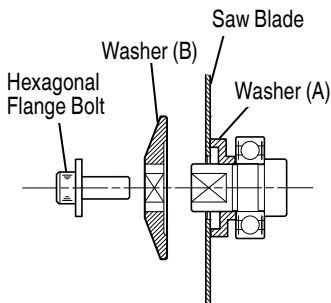

Fig. 16
- (1) Thoroughly remove any sawdust which has accumulated on the spindle, bolt and washers.
- (2) For mounting saw blade, the concave sides of both washers (A) and (B) must be fitted to the saw blade sides. Mount the saw blade on the spindle, and finally affix washer (B) (See Fig. 16)
- (3) To assure proper rotation direction of the saw blade, the arrow direction on the saw blade must coincide with the arrow direction on the blade cover.
- (4) Using the fingers, tighten the hexagonal bolt retaining the saw blade as much as possible. Then depress the lock lever, lock the spindle, and thoroughly tighten the bolt.
- (5) Confirm that the lock lever is in the original position.